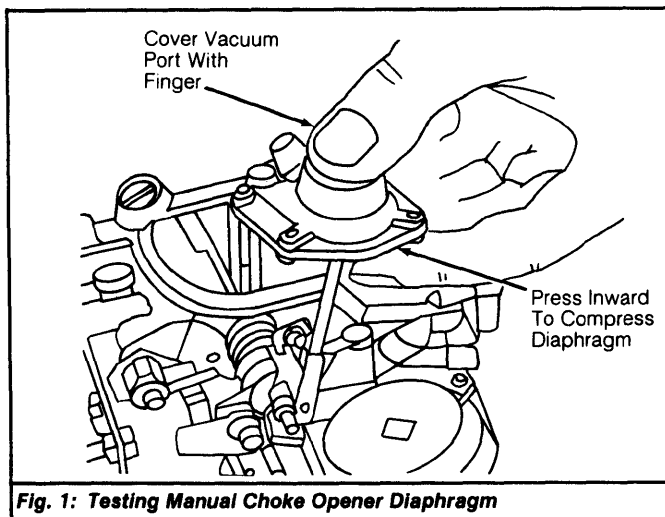

Fig. 1: Testing Manual Choke Opener Diaphragm
3) Swing choke opener assembly upward until it is straight up and down above carburetor. See Fig. 1. Holding opener assembly in this position, press inward to compress diaphragm.